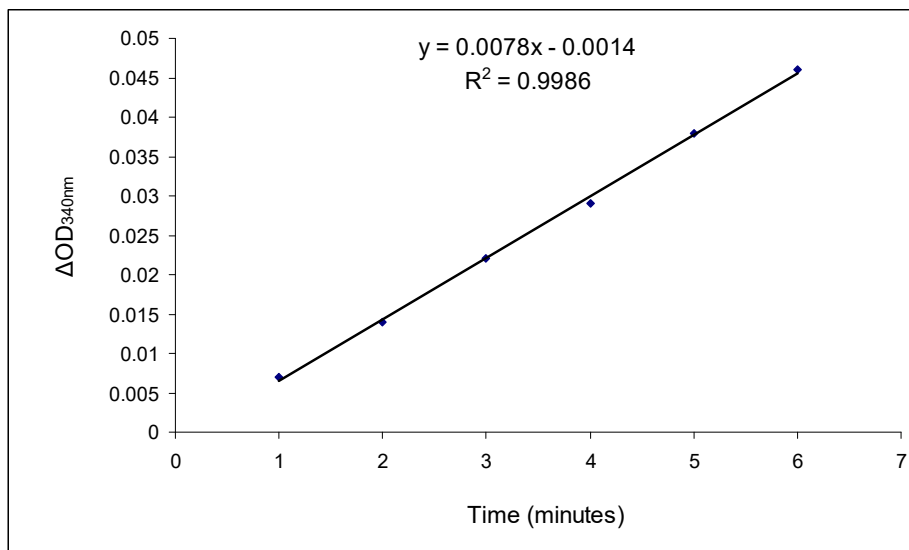

Figure 2. The change in absorbance ΔOD_{340nm} of diluted CK positive control during the time at 340nm.
CK positive control is used to measure CK activity with the CK Assay kit after various reaction times (Figure 2). The detection range is 0.008 to 0.05 U/ml when using a 96-well plate.
2. Determine the change in absorbance $\Delta OD_{340nm}/min$ by plotting the absorbance value at ΔOD_{340nm} as a function of reaction time, and then obtain the slope of the linear portion of the curve, as shown in Figure 2.